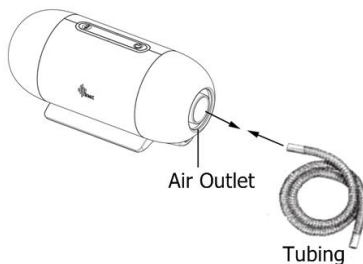

Fig. 11-4
(1) Connect one end of the tube to the air outlet of the main device, as shown in Fig. 11-4.